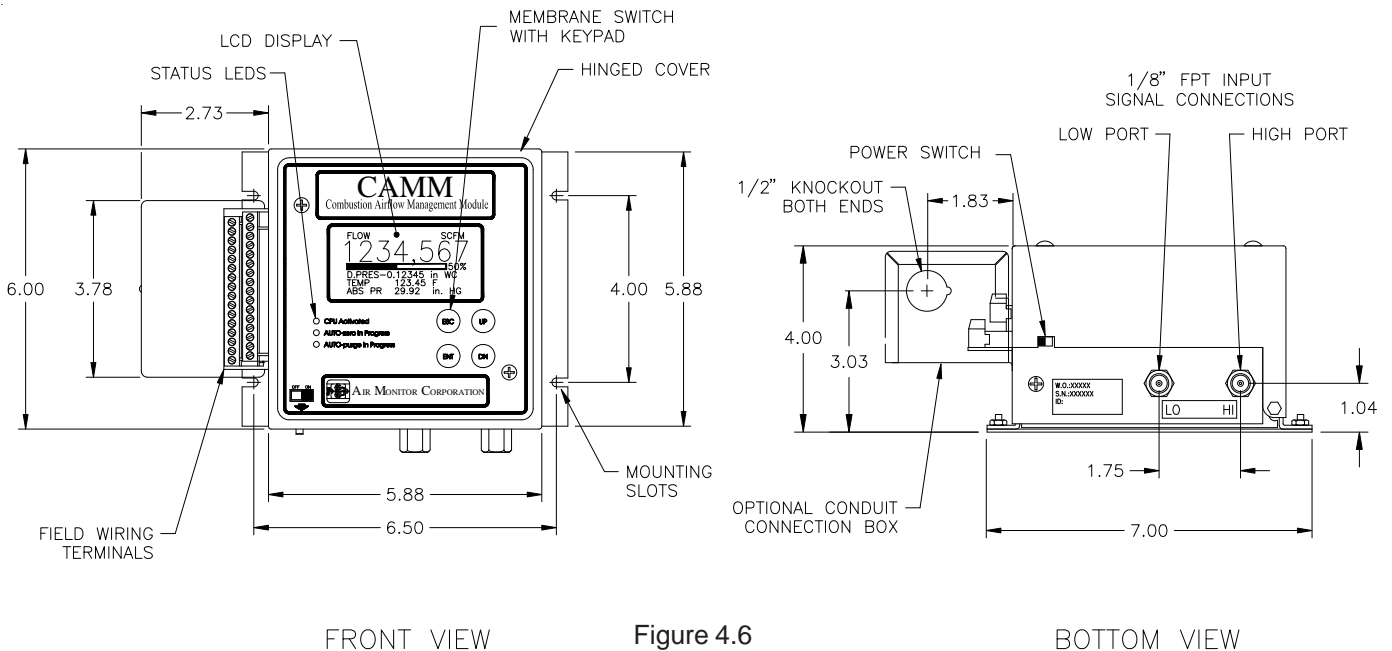

Figure 4.6
**CAUTION:** When connecting or disconnecting any wiring to the CMM, the unit's power switch (see Figure 4.6) must be in the OFF position.